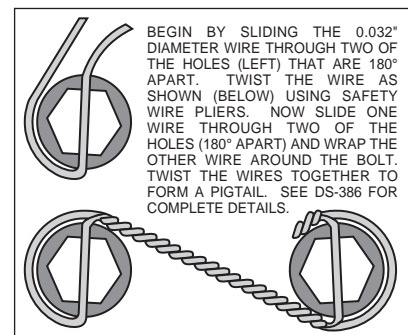

Figure 3. Safety Wire Diagram
- To accommodate several model years, multiple holes have been drilled in the caliper mounting bracket (1). Rotate the bracket until the two correct holes that align with the mounting holes in the face of the spindle are located. Apply red *Loctite*® 271 to bolt threads (2) before assembly of the caliper mounting bracket (1). Mount bracket (1) to dust face plate of spindle using bolts (2). Torque bolts (2) to 22 ft-lb. **NOTE:** Be sure the heads of the caliper bracket (1) insert nuts are facing outward toward the wheel.
- Install wheel studs (3) into the hub (4). Torque to 77 ft-lb. **NOTE:** There are two five lug patterns in the hub (5 x 4.50 and 5 x 4.75). Make sure of the correct hole pattern for the correct wheel application before installing studs into hub.
- Pack the large inner bearing cone (5) with high temperature disc brake bearing grease (available from your local auto parts store) and install into the backside of the hub (4).
- Install the grease seal (6) by pressing into the backside of the hub (4).
- Attach rotor adapter plate (7) to rotor (8) using bolts (9). Apply red *Loctite*® 271 to the threads and torque bolts (9) to 25 ft-lb. For an added measure of security, the bolts may be safety wired using standard 0.032 inch diameter stainless steel safety wire as shown in Figure 3. Please refer to Wilwood's data sheet DS-386 (available at) for complete safety wire installation instructions.